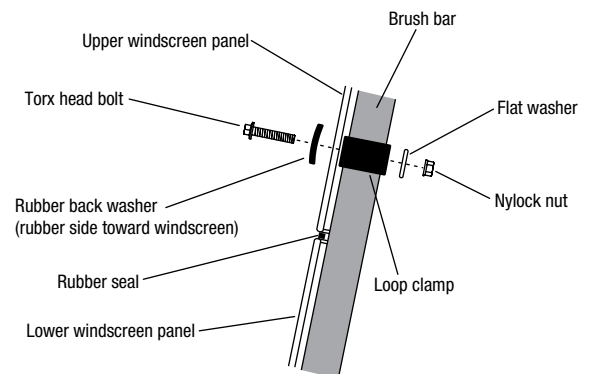

Fig. 2
- 3** Pre-Install the (8) Rubber backed washers onto the (8) Torx head screws so that the metal portion of the washer is against the head of the screw.
- 4** Place the windscreen against the overhead bars of the vehicle and align the bottom (2) clamps with the bottom (2) windscreen mounting holes.
- 5** Install (2) pre-assembled screws into the bottom (2) mounting holes of the windscreen.
- 6** Install (1) flat washer and (1) hex nut on each of the mounting screws. **Rubber surface of the washer should be against the windscreen. See figure 2.**